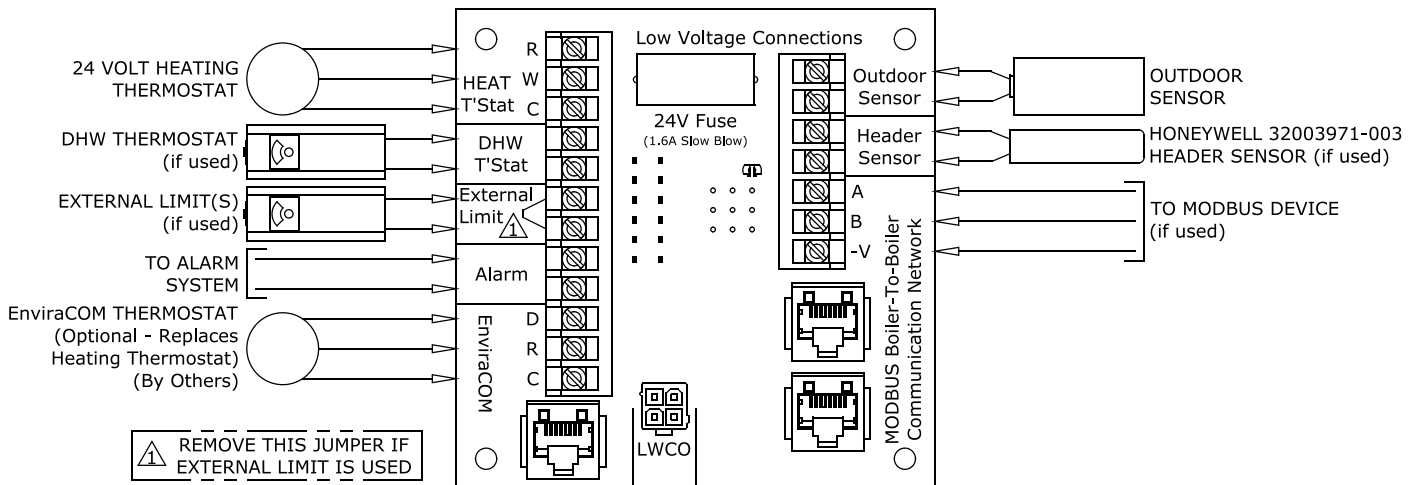

Figure 10.3: Low Voltage PCB Terminal Connections
**NOTICE** This boiler is equipped with a listed high water temperature limit function. This limit provides boiler shutdown in the event the boiler water temperature exceeds the set point of the limit control. Certain Local Codes require an additional water temperature limit. If necessary, install an additional water temperature limit such as a Honeywell L4006 Aquastat. Wire as indicated in Figure 10.3.
2. Low Voltage Connections – Low voltage field connections on the low voltage PCB are shown in Figure 10.3 and are listed from top to bottom:
- DHW Stat - 24VAC domestic hot water thermostat (1)
- DHW Stat - 24VAC domestic hot water thermostat (2)
- External Limit - Field supplied low voltage safety limit contacts (1)
- External Limit - Field supplied low voltage safety limit contacts (2)
- Alarm Contact (1)
- Alarm Contact (2)
- EnviraCOM Device (D)